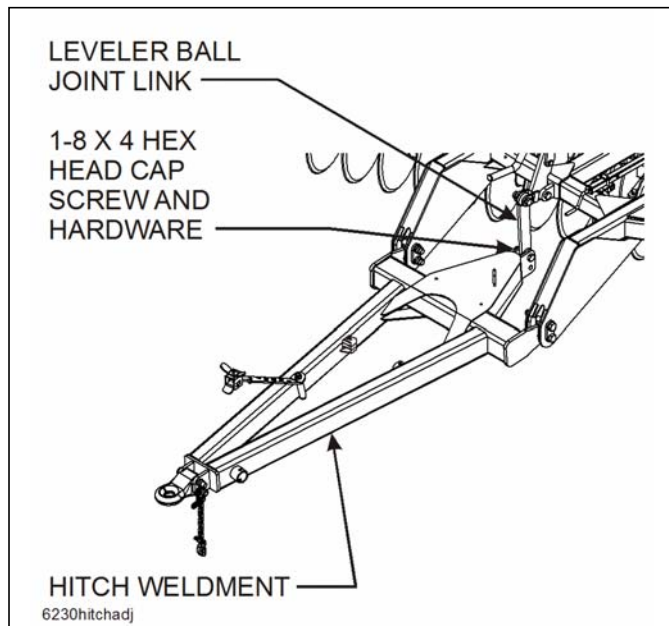

Figure 4-15: Hitch Adjustment
4. To adjust the hitch (See Figure 4-15.):